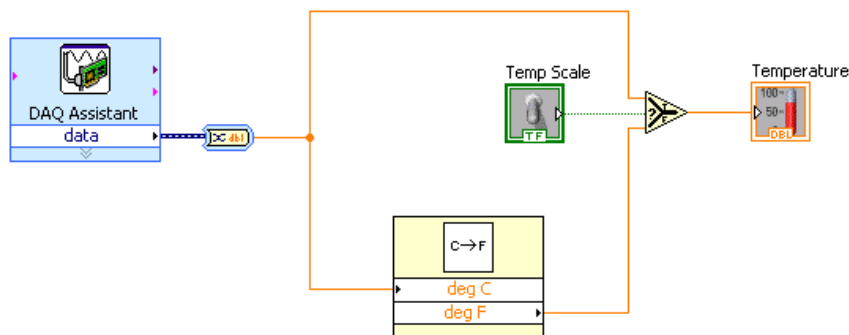

Figure 3.9
1. Select Window»Show Block Diagram to display the block diagram (Figure 3.9).
- Place the Select function, located on the Functions»Arithmetic & Comparison»Express Comparison palette, on the block diagram. This function returns either the Fahrenheit (False) or Celsius (True) temperature value, depending on the value of Temp Scale. Use the Positioning tool to place the icons as shown in the block diagram (Figure 3.9) and use the Wiring tool to wire them together.